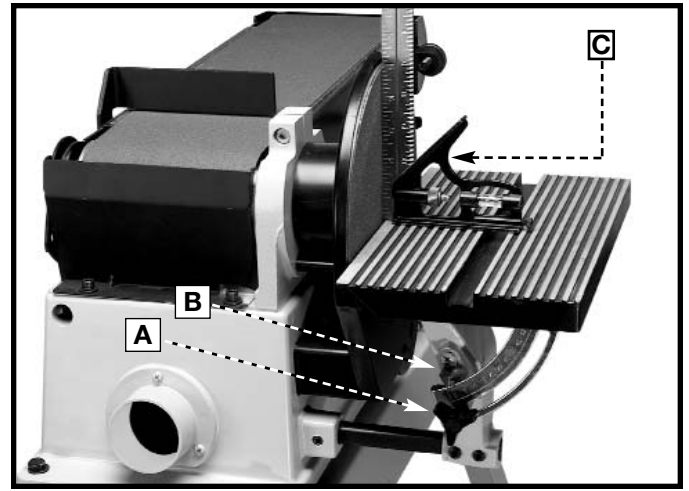

Fig. 25
1. Place one end of a combination square (C) Fig. 25 on the table with the other end against the sanding disc.
2. If the table surface is not 90 degrees to the disc, loosen the table lock knob (A) Fig. 25, adjust the table, and tighten lock knob (A).
3. Adjust the pointer (B) Fig. 25 to the "0" degree mark on the angle scale.